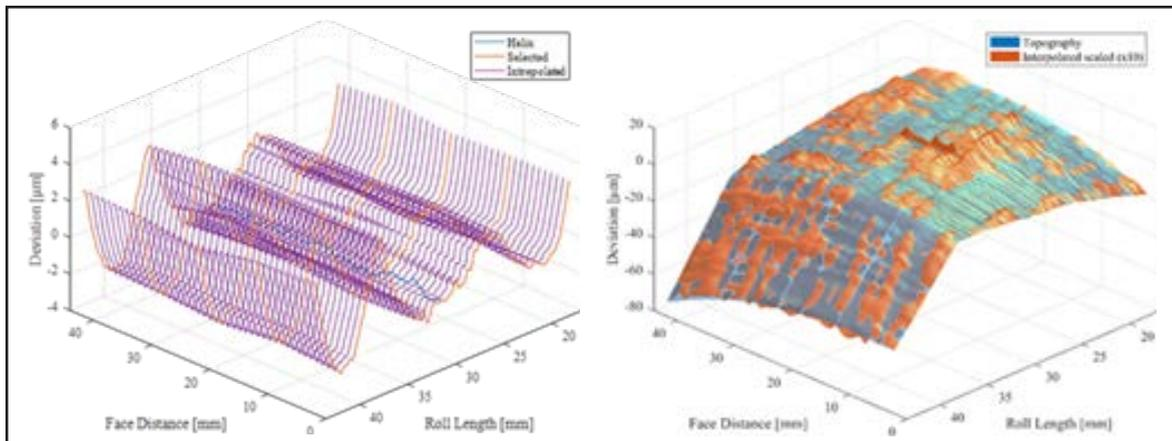

Figure 7 Residual form deviation after extraction of the surface polynomial and a comparison of the synthesized surface with the measured surface.
- Use these to synthesize the high-frequency surface deviations using Gaussian interpolation (Fig. 7).
- Add the surface polynomial back to the synthesized surface from the previous step to reconstruct the tooth surface (Fig. 7).
- Test the sampling strategy by comparing the reconstructed surface to the high-density measured surface and quantify the deviations (deviations in Fig. 7 are $\times 10$ magnification).